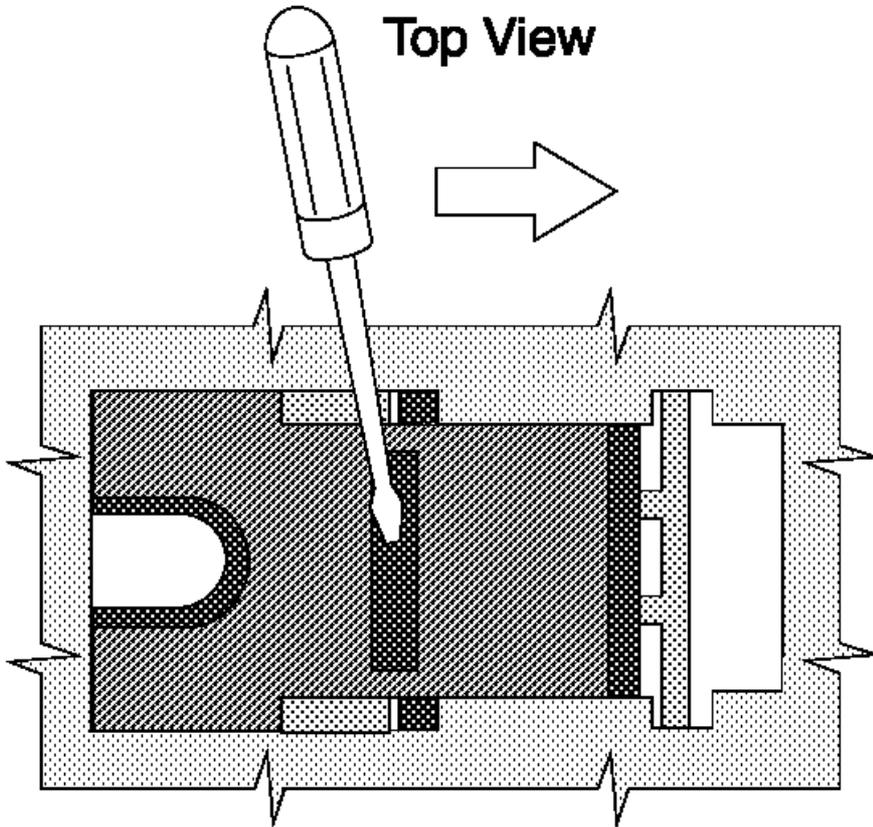
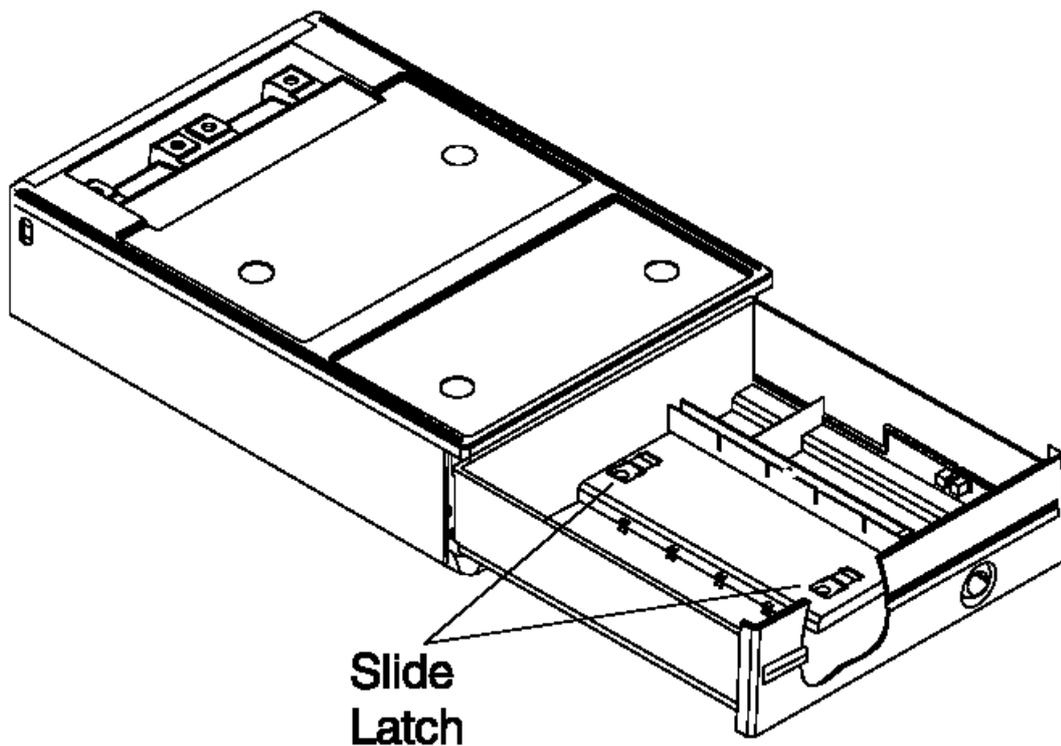

Figure 2-11. Releasing the Cash Drawer from the Slide Assembly
Figure 2-12. Removing and Replacing the Drawer
4. Using a coin or large screwdriver, move the drawer slide latches to the right (facing the front of the drawer, see Figure 2-11 and Figure 2-12) until the drawer is released from the slide assembly. Lift the drawer out.